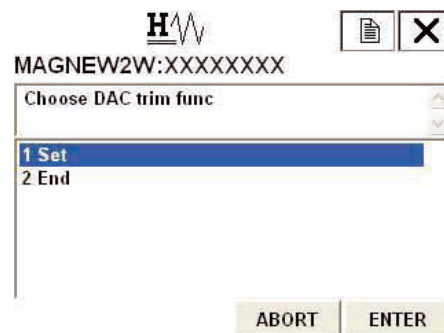

Figure 7-47
5. Figure 7-47 will then appear. When executing the adjustment, select "SET", and then press F4 (ENTER).